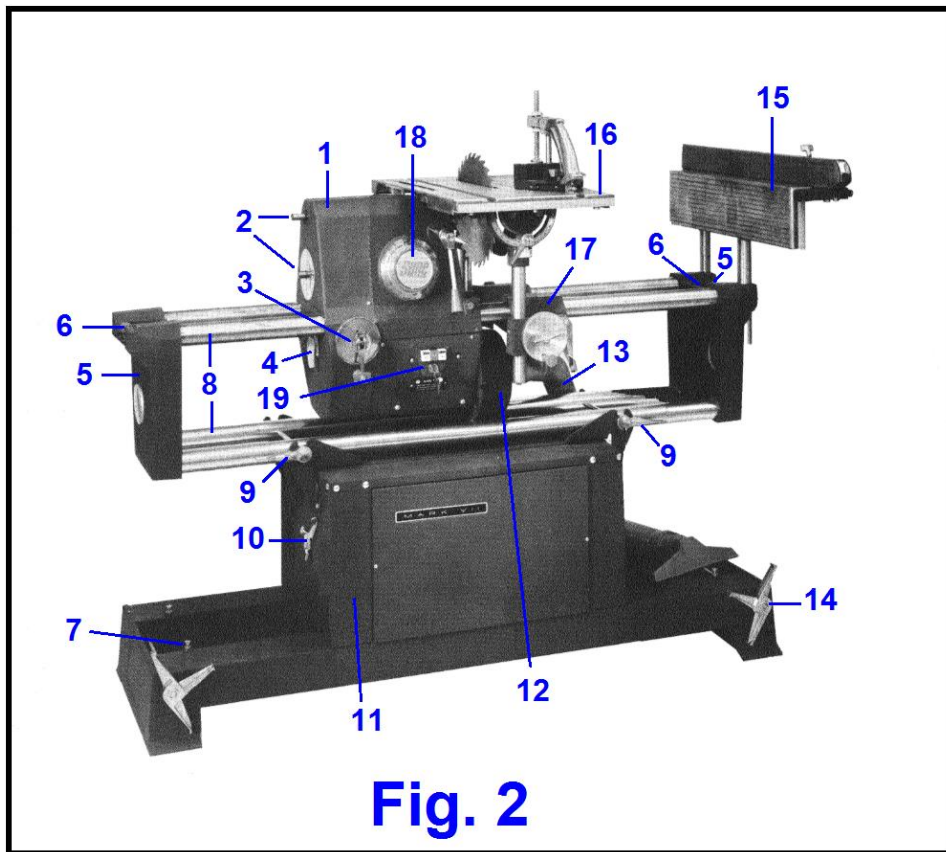

Fig. 2
5. **Mount tubular bed and power head assembly.** Determine front of stand: Safety latches (No. 10, Fig. 2) are nearer front side. Position trunnion handles (No. 9, Fig. 2) at 45° so that keys of trunnion are vertical and set power head and bed assembly in the brackets (Fig. 10). Jockey brackets until trunnion keys at both ends seat properly and then lock in place by turning handles down to horizontal position.